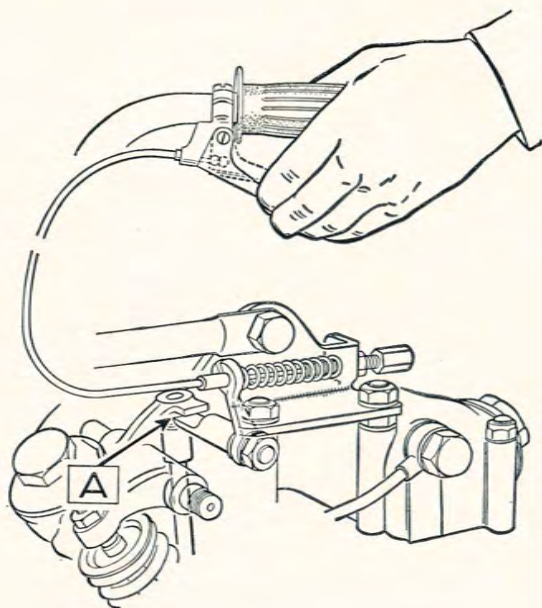

Fig. 8. Exhaust valve lifter clearance.
It is essential that the cable length is adjusted so that there is always ample clearance between the lobe on the exhaust rocker arm and the lifter spindle at (A) Fig. 8.